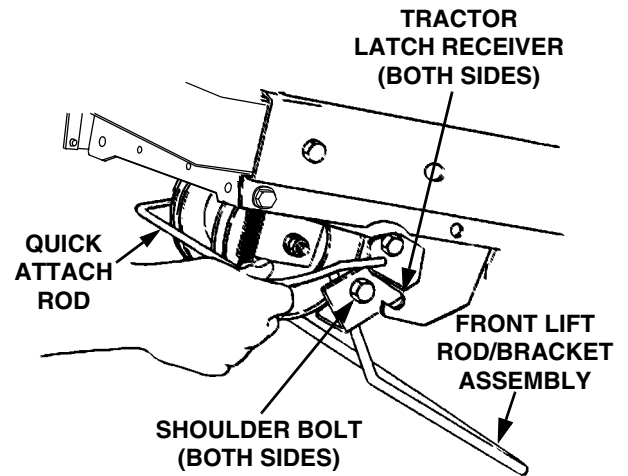

Figure 42
- From the front of the tractor, push downward and hold the tractor quick-attach rod. Pull the front lift rod/bracket assembly forward to release the shoulder bolts on each side of the bracket from the left and right tractor latch receivers. Release the tractor quick-attach rod (Refer to Figure 42).